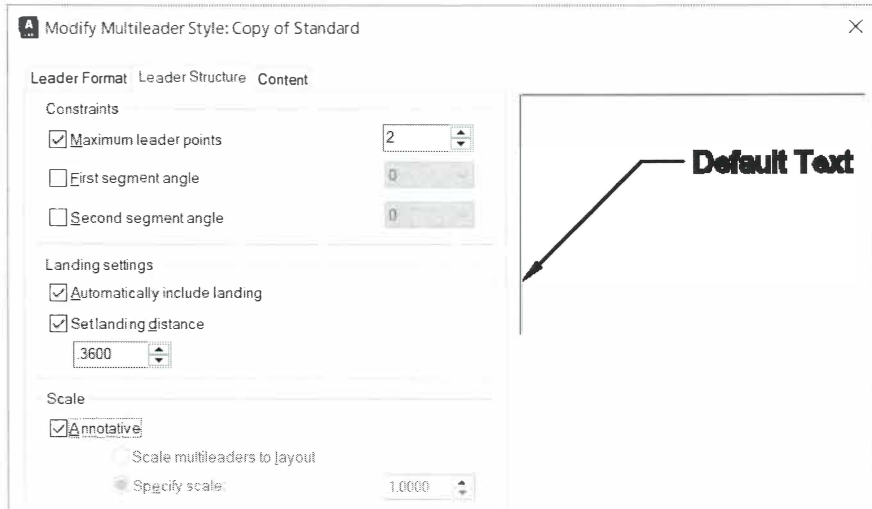

Figure 9–21
- In the *Content* tab, you can specify whether you want the multileader content to be **Mtext**, **Block**, or **None**. Once you set the *Multileader type*, the rest of the options vary according to the selection. The **Mtext** option is shown in Figure 9–22.